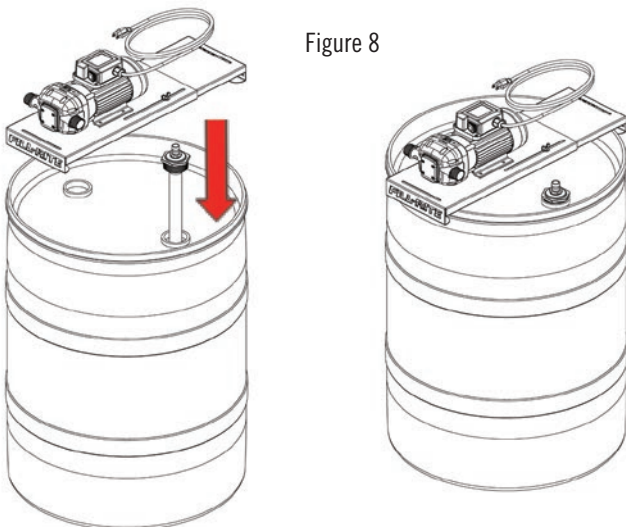

Figure 8
2. Adjust length of suction tube to reach within 2" of the bottom of drum once tightened into bung adapter. Insert Drum Suction Tube (sold separately, item 6, page 11). Place Pump with Drum Bracket over drum lip. Compress sliding bracket to securely wrap around drum lip. Secure bracket by tightening wing nuts (Figure 8).